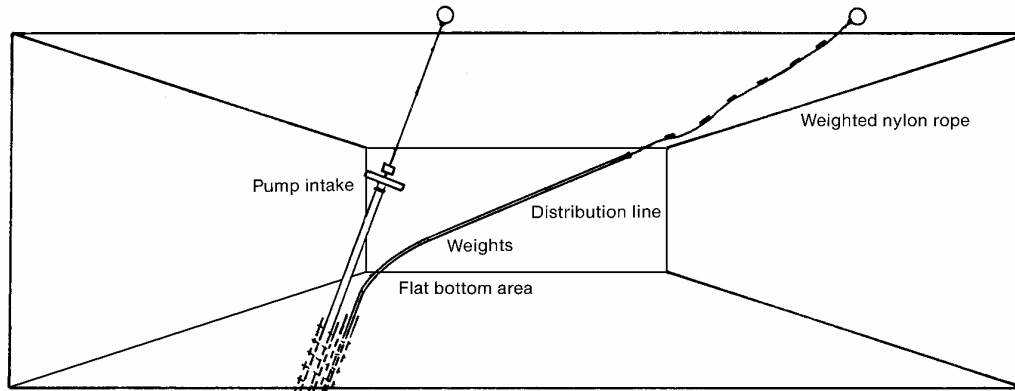

FIG.1 DEEP BURIAL FULL DUGOUT (plan view)
1. Determine the length of the feeder line (distance from the air compressor to the dugout flat bottom) and distribution lines (see Design Table). The distribution line should lie on the flat bottom area of the dugout (Fig. 1).